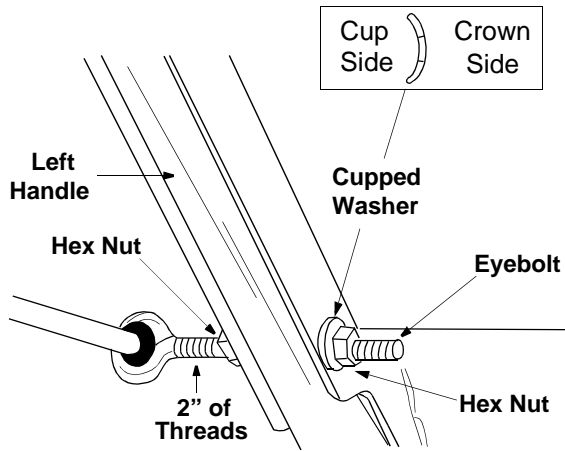

Figure 10
- Thread one hex nut onto the eyebolt on the chute directional control assembly until there is at least two inches of threads showing between the nut and the head of the eyebolt. See Figure 10.
- Place the eyebolt into the hole located half way up the left handle. Secure with cupped washer (cupped side against the handle, see insert, Figure 10) and hex nut.